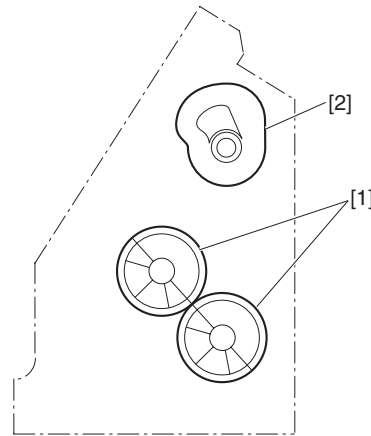
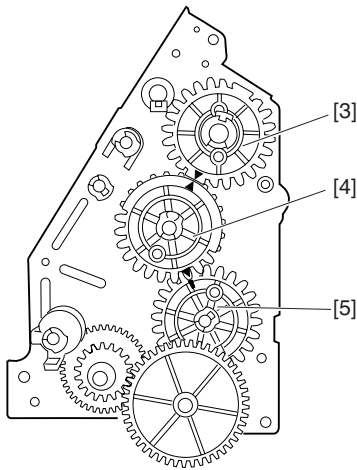

Fig. F03-102-14
Fig. F03-102-15
2. With the paper fold rollers and saddle cam positioned as shown in Figure F03-102-14, mount gears as shown in figure F03-102-15.